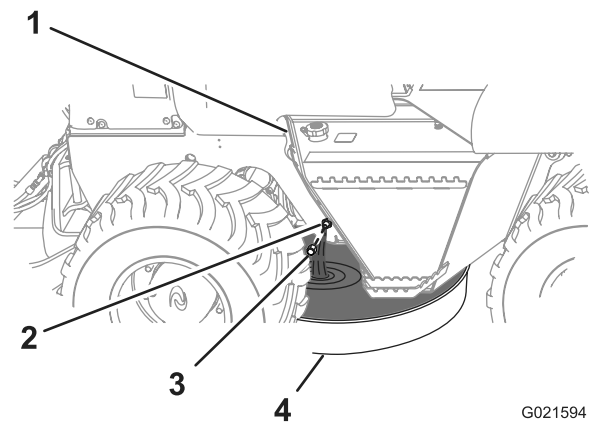

Figure 43
3. Place a drain pan that has a minimum capacity of 8.4 L (8.9 US qt) under the engine-oil drain fitting (Figure 43).
4. Remove the cap from the drain fitting and allow the engine oil to drain completely (Figure 43).
6. Install the cap onto the drain fitting (Figure 43).
1. Remove the oil-fill cap from the filler neck by pulling the cap upward (Figure 43).